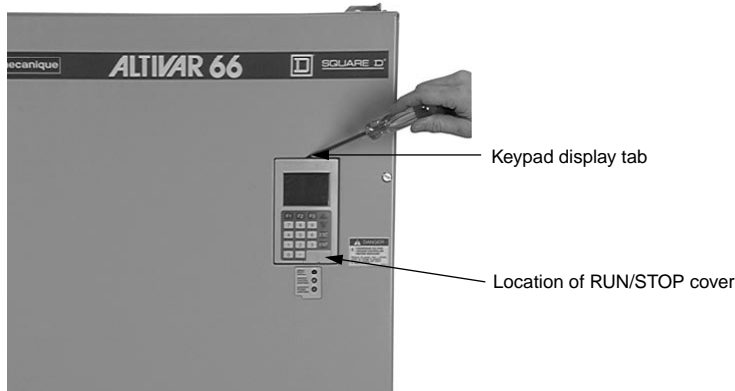

Figure 4.1.3: ATV66C10N4 to C19N4 Front View
3. Remove the RUN/STOP cover, if desired (see Figure 4.1.3).